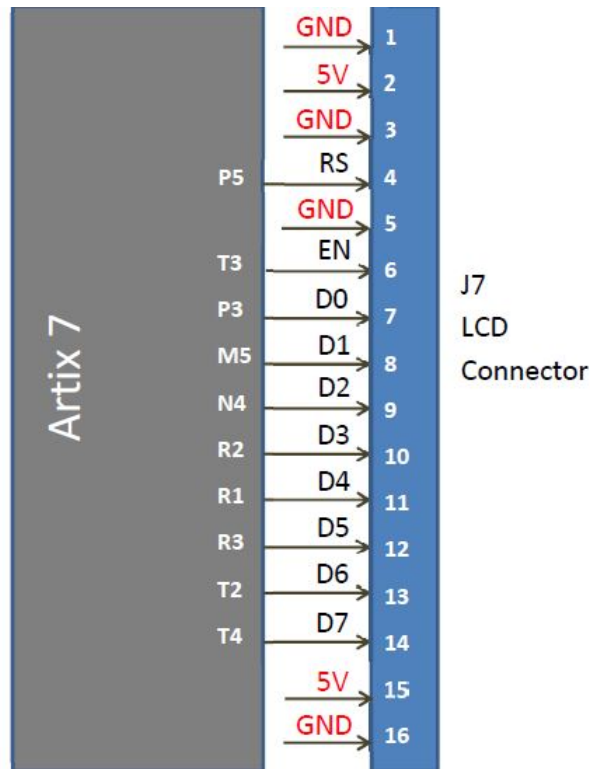

Figure 2: Interfacing the LCD
The LCD is interfaced with the FPGA chip as shown in Figure 2. The figure shows the I/O pins involved (which will be used in your Verilog module as well as in the design constraints file). In particular, the enable, register select (RS) and data pins need to be used. Register select (RS) setting helps to switch from command register (RS=0) to data register (RS=1). Note that the command register stores instructions (such as clear the display, move the cursor to a certain location etc.) given to the LCD. (An R/W line is additionally available and one may use it, in general, to specify read (from) or write (to) LCD. In our case, we will restrict to write and assume a default setting (of 0) for write.)